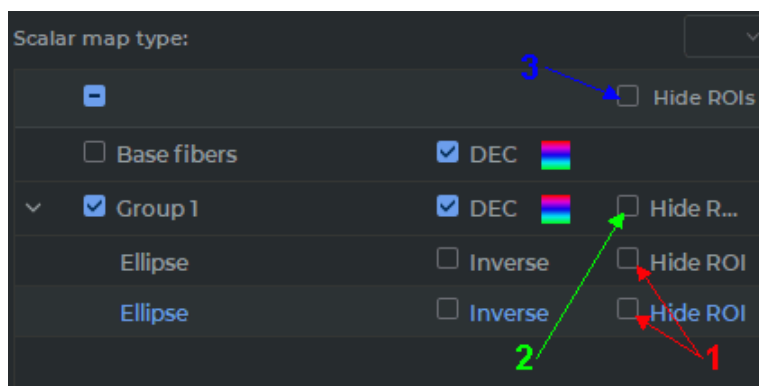

Figure 5.29: ROIs visibility
7. To hide ROI, check the **Hide ROI** box for this ROI (marked with number «1» in Fig. 5.29). To hide all the ROIs in the group, check the **Hide ROIs** box for this group (marked with number «2» in Fig. 5.29). To hide all the ROIs, check the **Hide ROIs** box in the header of the table (marked with number «3» in Fig. 5.29). The visibility of the ROI does not affect the visibility of the fibers.